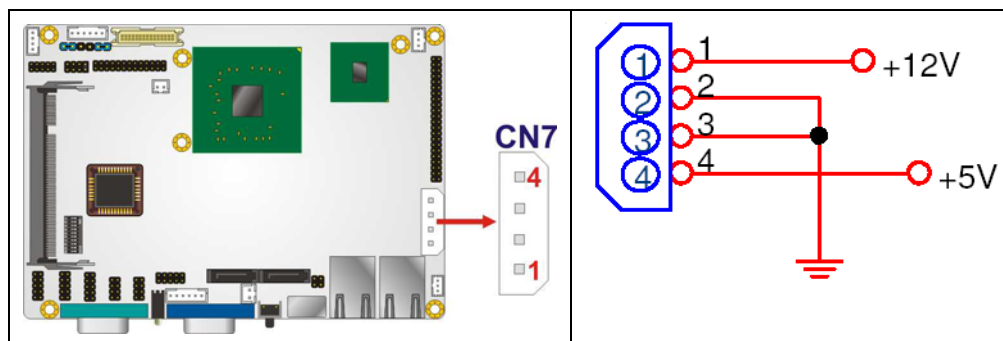

Figure 4-15: AT Power Connector Location
- CN Location:** See **Figure 4-15**